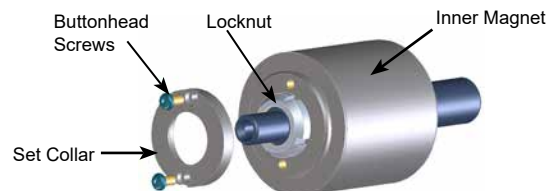

FIGURE 13
3. Remove the two 6mm buttonhead machine screws and the set collar. Insert a brass bar through a port between two rotor teeth and remove the locknut (See Figure 13). Slide the inner magnet off the shaft. Do not forget this is a very strong magnet. If further pump disassembly is required, refer to Step 7 of **PUMP DISASSEMBLY**, page 4.